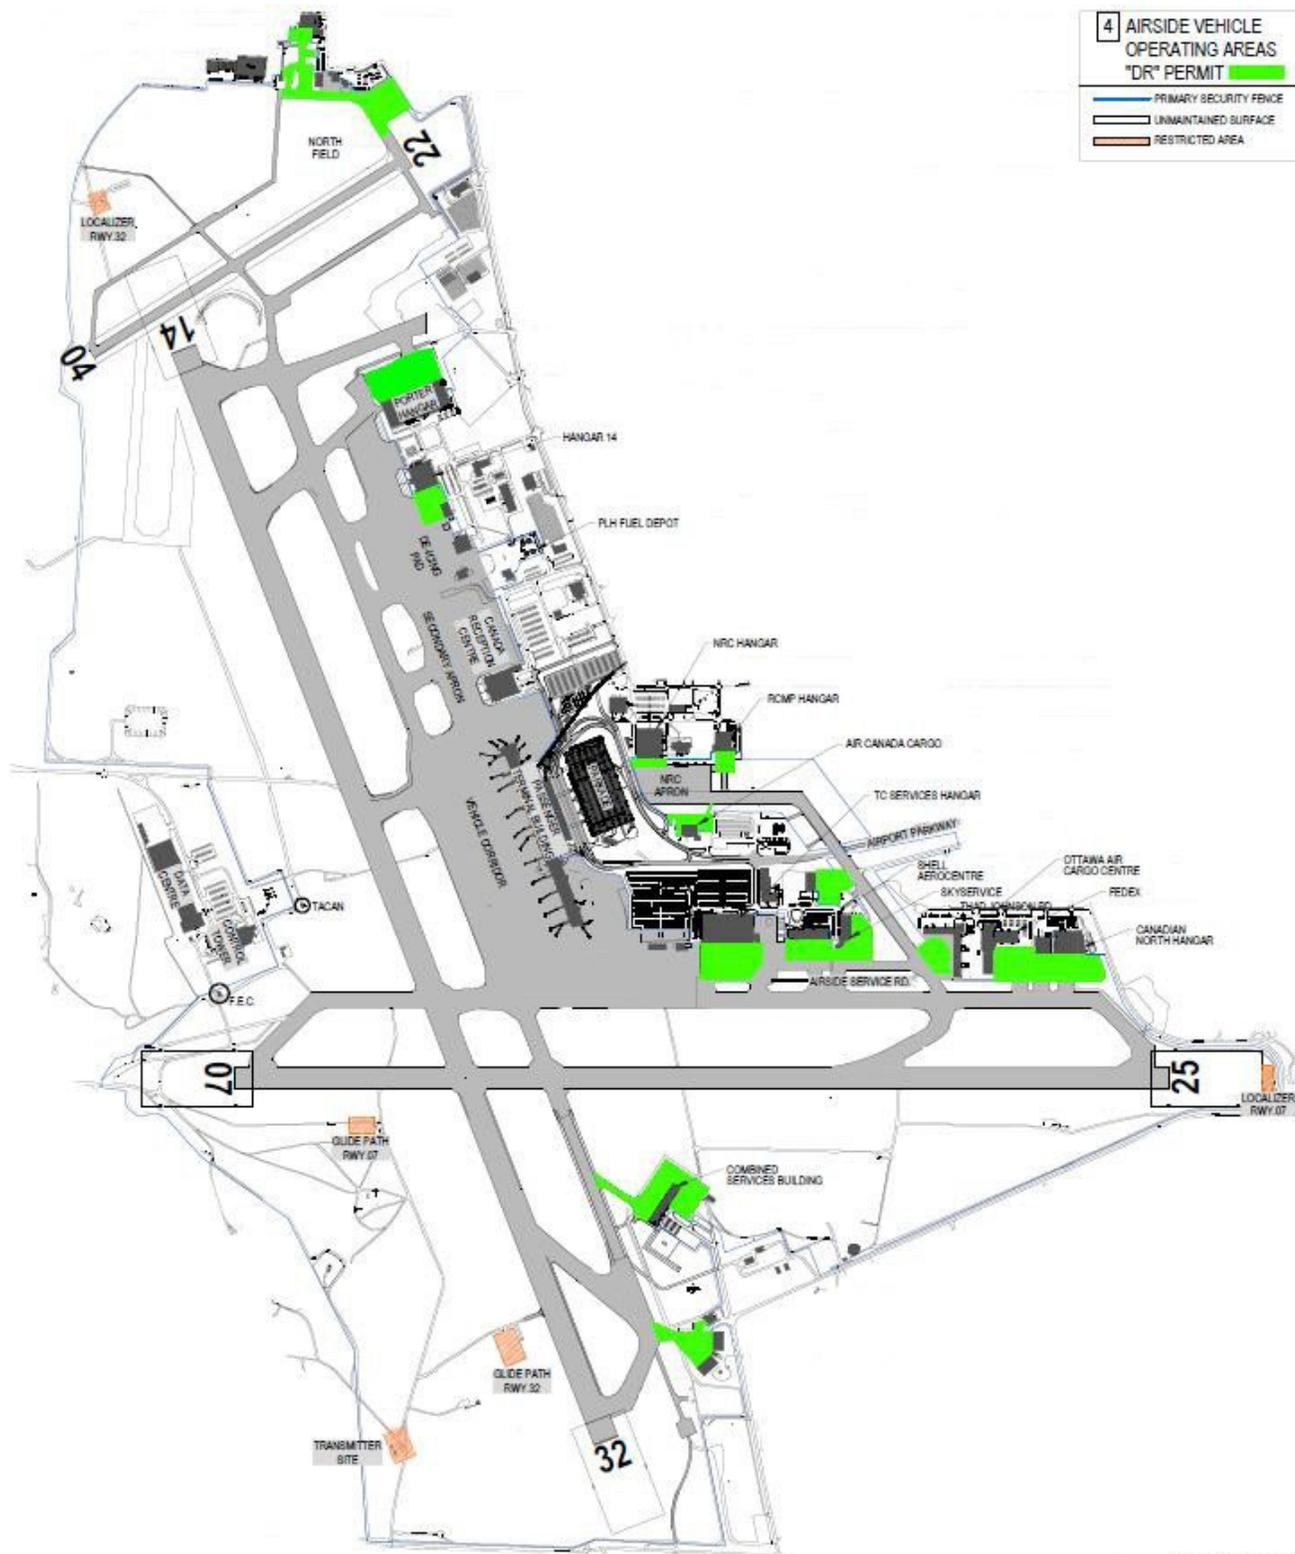

FIGURE 2.2
1. **AVOP-DR:** Private aprons and restricted areas (Figure 2.2)